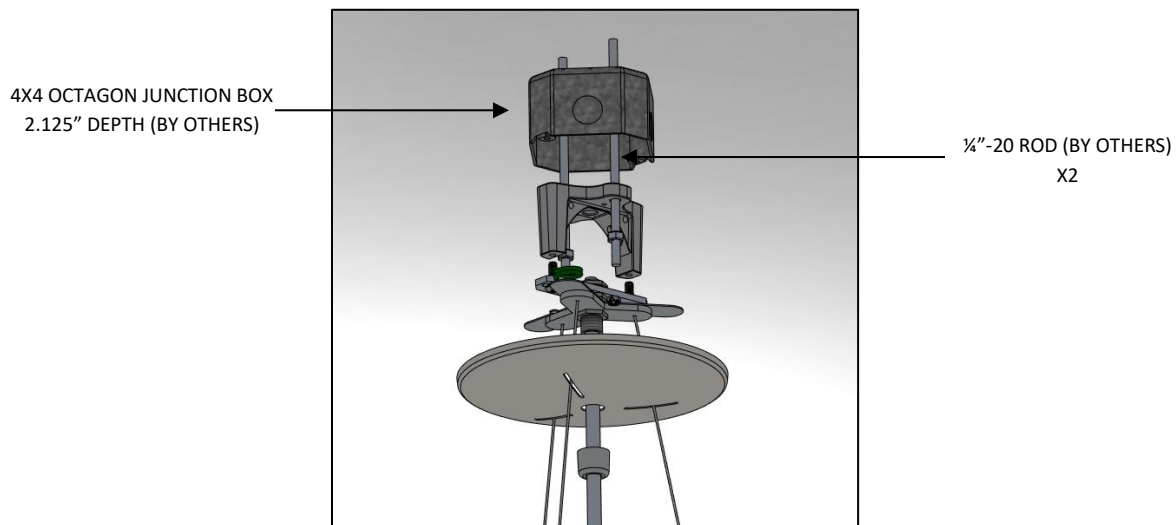

FIG. 16 – STRUCTURAL CANOPY
- Loosen the CANOPY FINIAL and remove CANOPY (as shown in FIG. 16). Be careful not to scratch finish and Feed the AIRCRAFT CABLES (3) through the holes of MOUNTING BRACKET ASSEMBLY (as shown in FIG. 17).